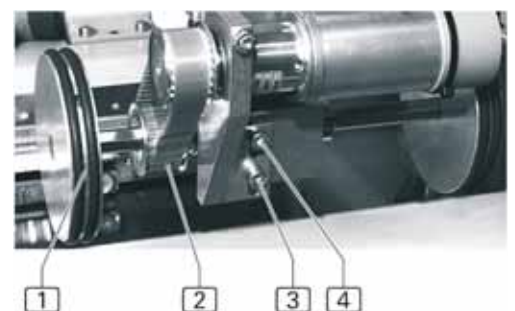

fig. 10
- fig. 10:** Reduce the pre-tension by loosening screws [3] and [4]. Raise the suspension of the roller disks and remove toothed belt [2]. Place the exchange belt over the left roller disk [1] on the drive and sliding roller. Pre-tension the toothed belt, press down the suspension and tighten both screws.